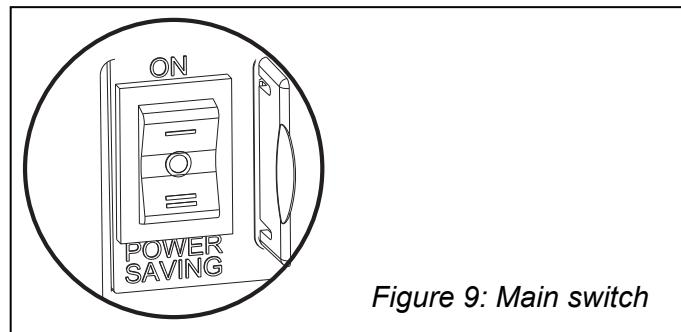

Figure 9: Main switch
Move the main switch (figure 9) to position I ("ON") or II ("Power saving"). With the power switch in position II, the battery is saved when the load is under 40 W. The AC Master is in scan mode then and switches on when it detects a load. When the AC Master switches on, it will produce a short beep.
Move the main switch (figure 9) to the position 0 ("OFF"). Note that switching off the AC Master does not disconnect the batteries!
1. Move the main switch (figure 9) to position 0 ("OFF").